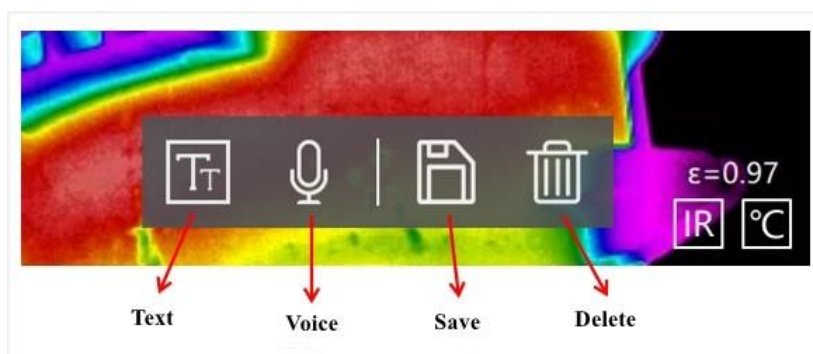

Figure 4.16 Capture Settings
Step 6: After the setting is complete, touch the trigger once to enter the capture state, and long press the trigger to enter the recording mode (as shown in Figure 4.16). Text (T): can add text remarks to a captured image. Voice (U): can add voice notes to captured images. Save (S): make sure to save the current snapshot and its remarks; Delete (D): delete the current snapshot and its remarks.